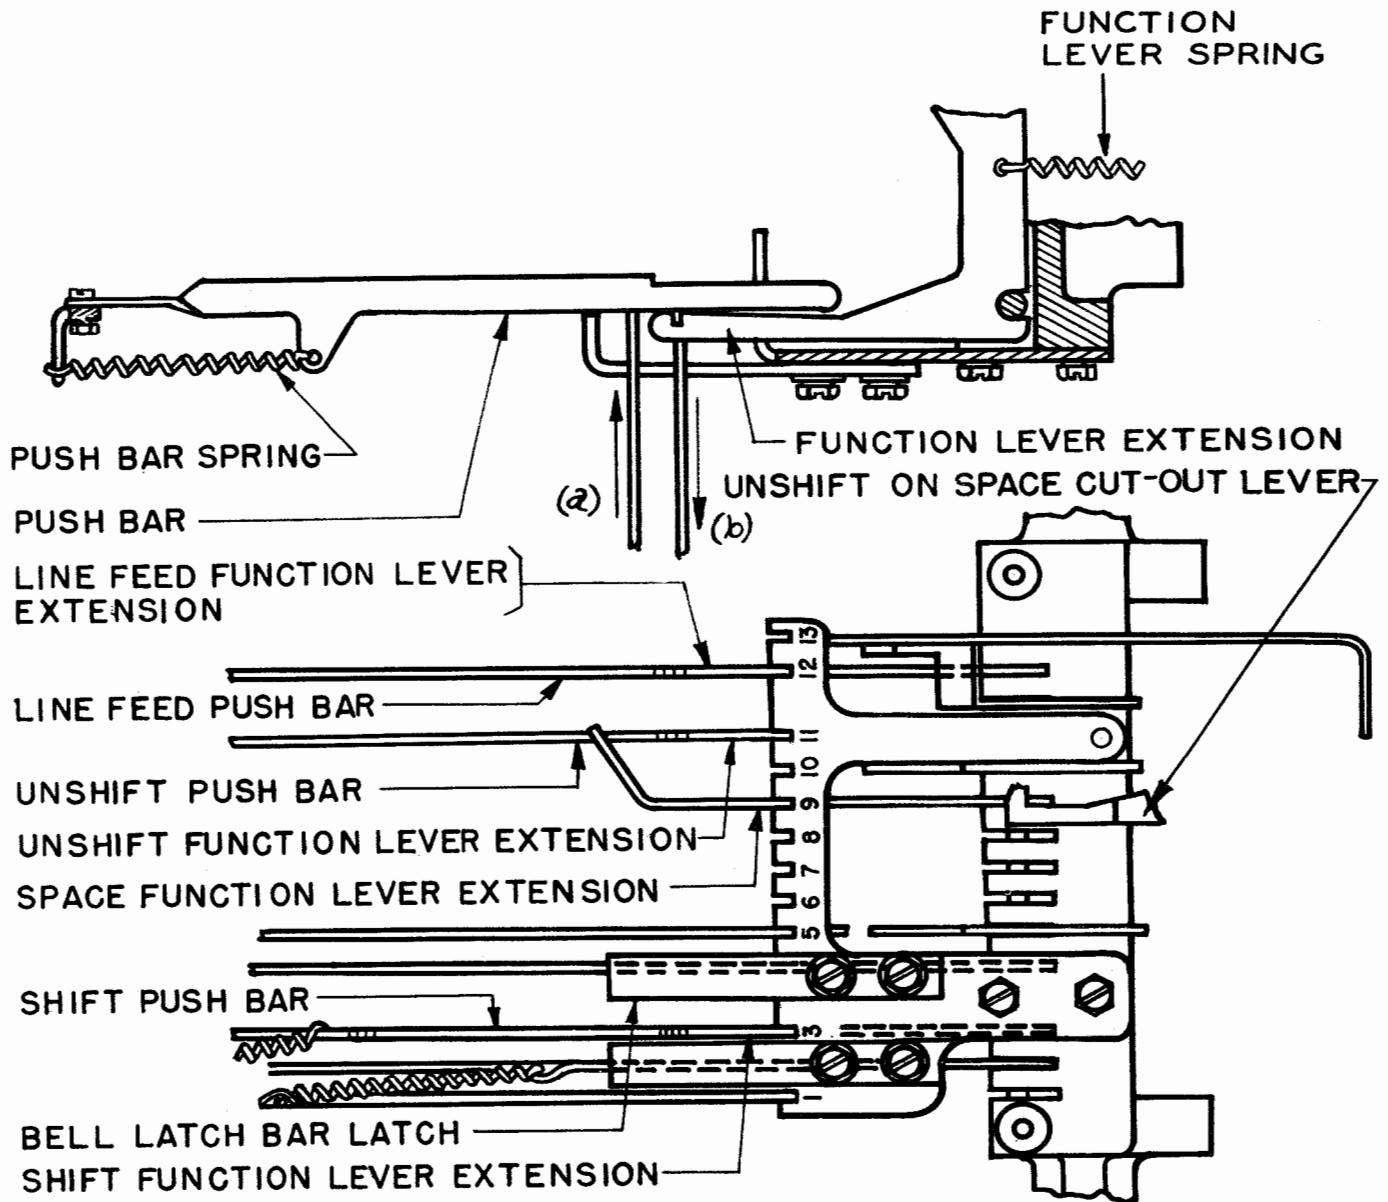

Figure 31
2.54 FIGS, Line-feed, and LTRS Function Levers should be free of bind and the tension of their springs should be minimum 15 ounces, maximum 19 ounces, measured as at (b) when (1) the blank combination is set up, (2) the mainshaft is rotated until the printing bail is in its extreme forward position, and (3) the pushbars are held away from the function levers. See Figure 31.
2.55 Space-function-lever Spring should have a tension of minimum 12 ounces, maximum 16 ounces, measured as at (b) when the space-function lever is resting against the vanes but not selected and the letters pushbar is held away from the function lever. See Figure 31.
2.58 Unshift-on-space Cut-out Lever should be rotated counterclockwise (viewed from bottom) until it rests against its stop. See Figure 31.
maximum 5 ounces, measured as at (a) in Figure 31 when any character has been selected and the mainshaft is rotated until the printing bail is in its extreme forward position.
2. 70 Line-feed Pushbar Spring should exert a pressure of minimum 1-1/2 ounces, maximum 2-1/2 ounces, measured as at (a) when the printing bail is in its extreme rear position. See Figure 31.